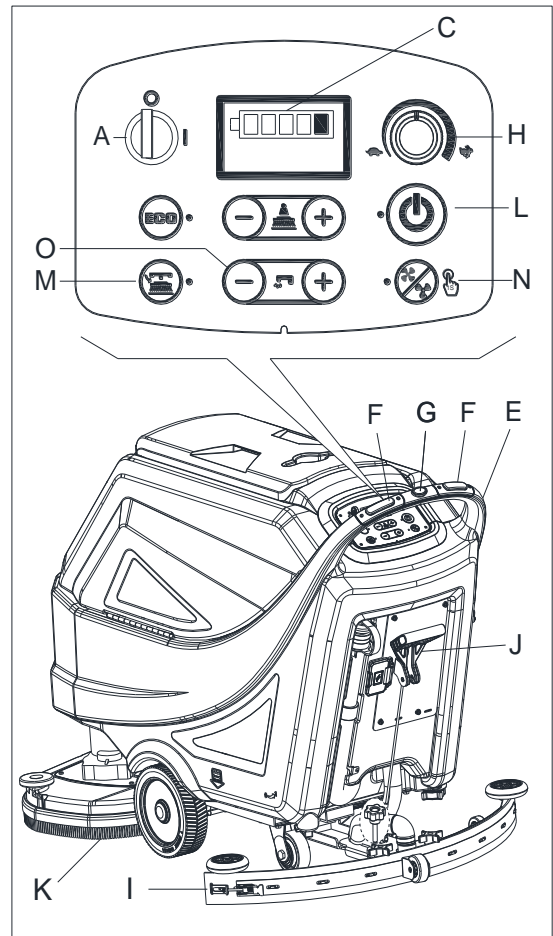

Figure 13
2. Insert the ignition key (A, Figure 13) and turn it to "I". Check Batteries status from display screen. If necessary charge the batteries (see the procedure in Maintenance chapter).
- By pushing either safety switch (F) to move forward or pressing the safety switch (F) together with the reverse switch (G) to move backward. The forward speed can be adjusted with the adjuster (H).
4. Lower the squeegee (I) with the Squeegee lifting/lowering handle (J).
5. Lower the brush/pad-holder deck (K) by pressing the one button start (L)
6. Press the solution flow control buttons (O) as necessary, depending on the type of cleaning to be performed.
- Press either safety switch (F) to activate the machine drive. If necessary, the forward speed can be adjusted with the adjuster (H).
To move the machine forward, press either the left or right safety switch (F, Figure 13) or both.
8. Stop the machine by releasing the safety switches (F, Figure 13)
10. Lift the brush/pad-holder deck (K) by pressing the one button start (L).
11. Lift the squeegee (I) with the Squeegee lifting/lowering handle (J).
12. Turn the ignition key (A) to "0".